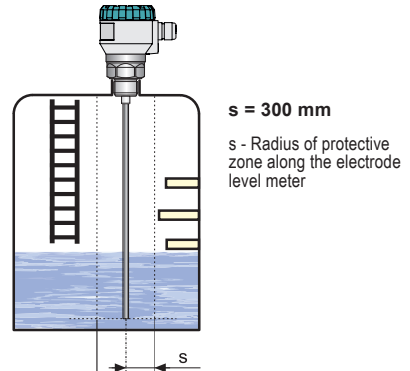

Fig. 13: Level meter installation outside obstacles in the tank
- The level meter generates an electromagnetic guided wave, which creates an electromagnetic field along the electrode. Objects placed close to the electrode disturb the electromagnetic field and thus affect the measurement. Therefore, it is determined a **protective zone** along the electrode of **radius 300 mm**. The level meter is recommended to install the tank so that the items placed inside the tank (ladders, various partitions, mixers, etc.) do not intervene into the protective zone, see Fig. 13.